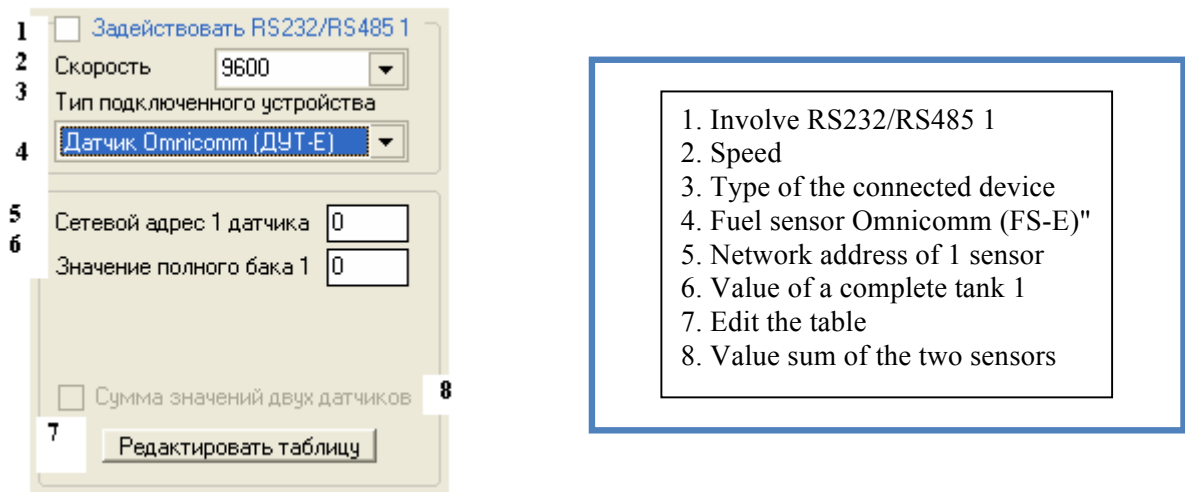

Figure 4.13
- **"Fuel sensor Omnicomm (FS-E)"** Digital fuel sensor is working to a protocol compatible with the protocol Omnicomm. To receive and process the data from the sensor, you must specify the address of the **"Network address of 1 sensor"** (Figure 4.13). The process of the sensor calibration and address assignment are specified in a manual the appropriate sensor.